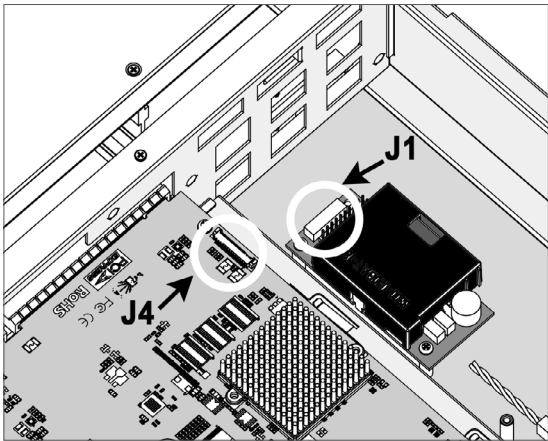

Figure C-4, Insert the cable connector into J1 & J4
3. Insert the cable connector into the **J1** (12-pin box header battery connector on ARC-6120-BAT121-7 module), and also insert another side of the cable connector into the **J4** (14-pin box header battery connector on ARC-5088 backplane), as shown in Figure C-4.